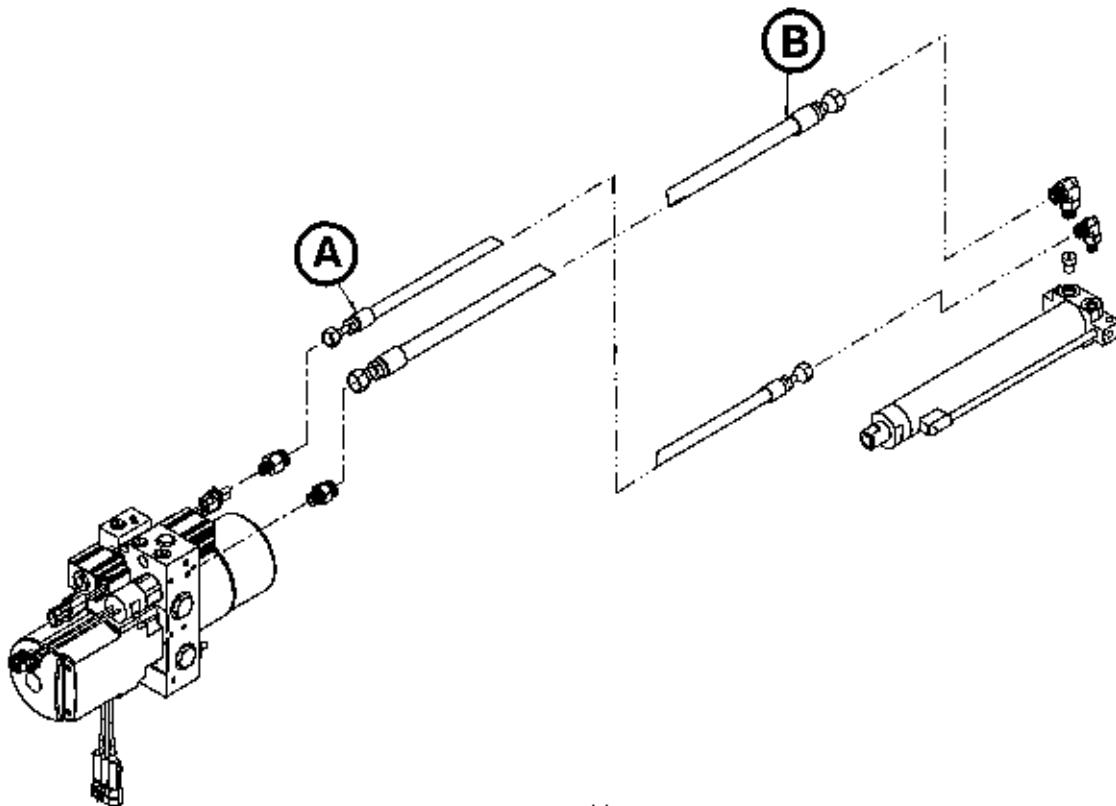

Figure 114
3. Using 11/16" and 13/16" combination wrenches, remove the damaged hose (A or B) (Figure 114).